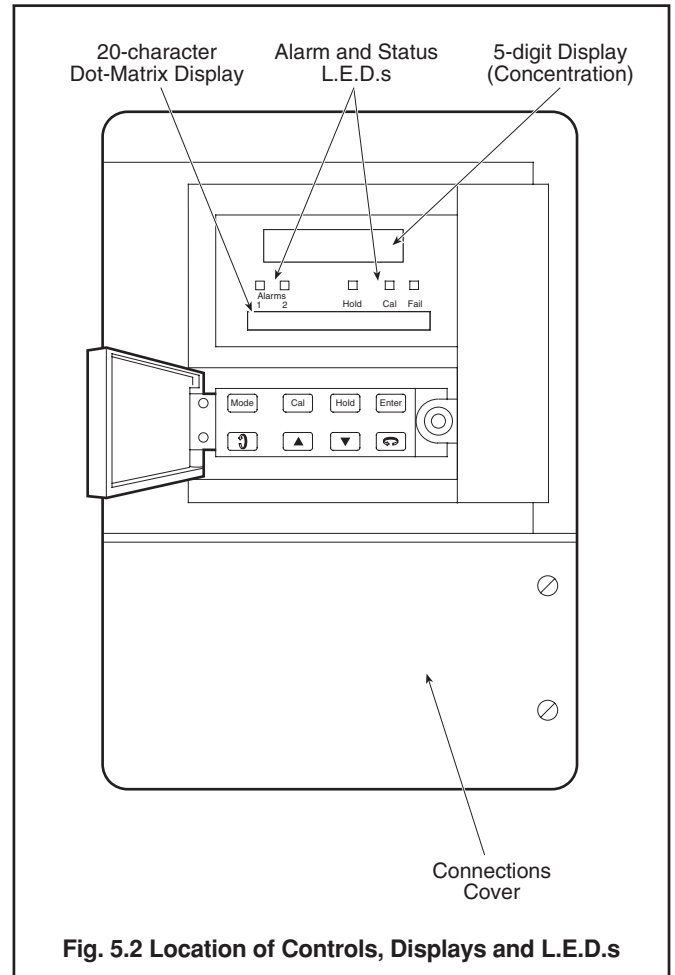

Fig. 5.2 Location of Controls, Displays and L.E.D.s
5.4 Front Panel Controls – Fig. 5.2
5.5 Displays – Fig. 5.2
5.6 L.E.D. Indication – Fig. 5.2